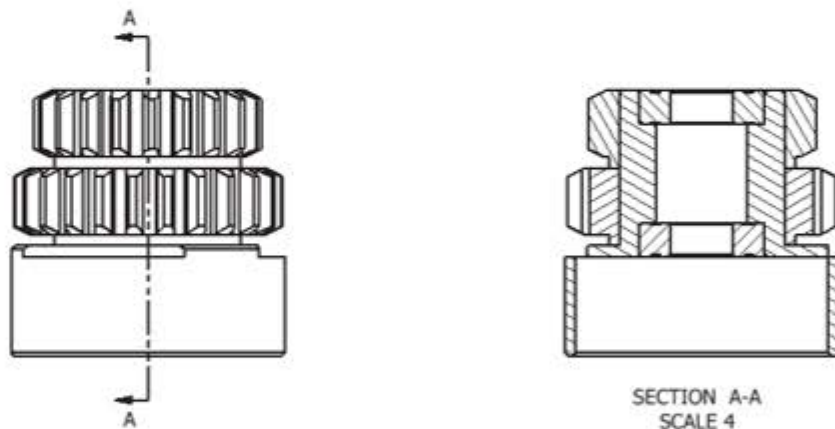

Figure 26–69
12. What is the process to edit the hatching for a component in a section view, as shown in Figure 26–69?